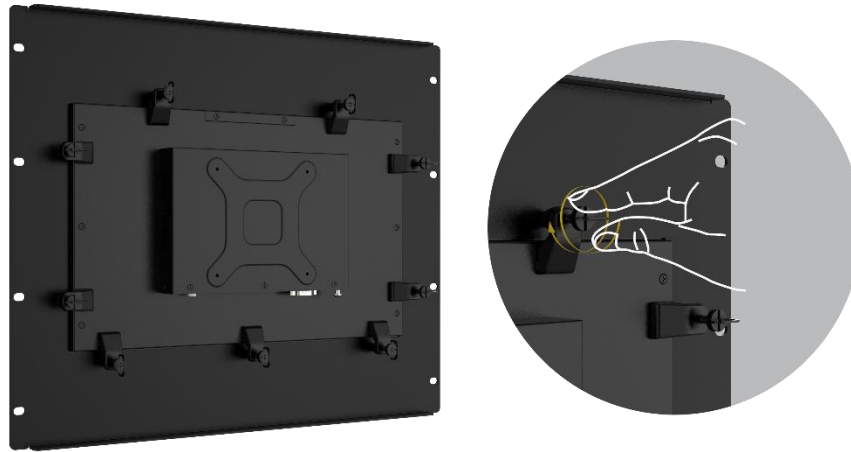

Figure 3-22: Tighten the Mounting Screws
Step 5: Tighten the screws that pass through the mounting clamps until the plastic caps at the front of all the screws are firmly secured to the panel (**Figure 3-22**).